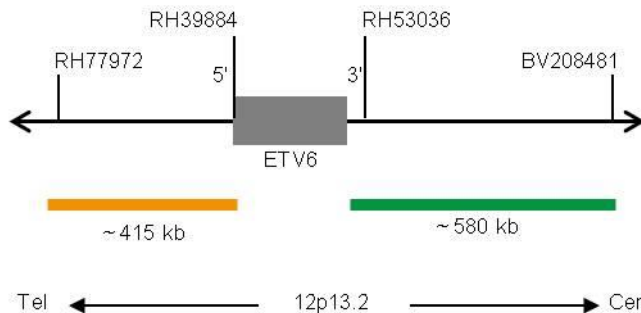

Fig. 1: SPEC ETV6 Probe map (not to scale)
- ZyGreen (excitation 503 nm/emission 528 nm) labeled polynucleotides (~10 ng/ $\mu$ l), which target sequences mapping in 12p13.2\* (chr12:12,054,737-12,634,328) proximal to the ETV6 breakpoint region (see Fig. 1).
- ZyOrange (excitation 547 nm/emission 572 nm) labeled polynucleotides (~4.5 ng/ $\mu$ l), which target sequences mapping in 12p13.2\* (chr12:11,393,774-11,808,608) distal to the ETV6 breakpoint region (see Fig. 1).